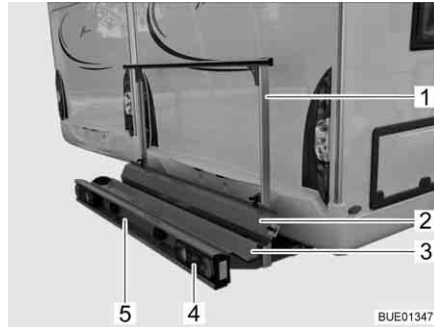
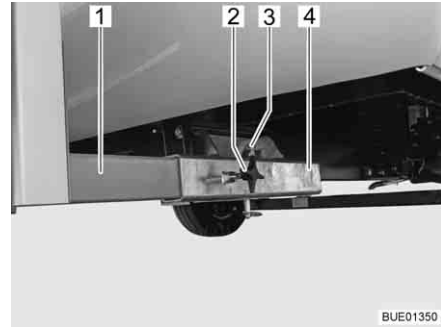

Fig. 7 Load rack
Fig. 8 Attachment to vehicle
The load rack (Fig. 7) permits transport of a motorcycle or a motor scooter weighing up to 130 kg.
- Rack trough (Fig. 7,3) and retaining clip (Fig. 7,1) with attachment to vehicle (Fig. 8)
- Rear lights (Fig. 7,4)
- Vehicle licence plate light (Fig. 7,5)
- Ramp (Fig. 7,2)
The two side members (Fig. 8,1) of the load rack are fixed to the floor of the vehicle by means of tommy screws (Fig. 8,2) on the square drives (Fig. 8,4). The load rack is secured by a bolt (Fig. 8,3) with locking ring.